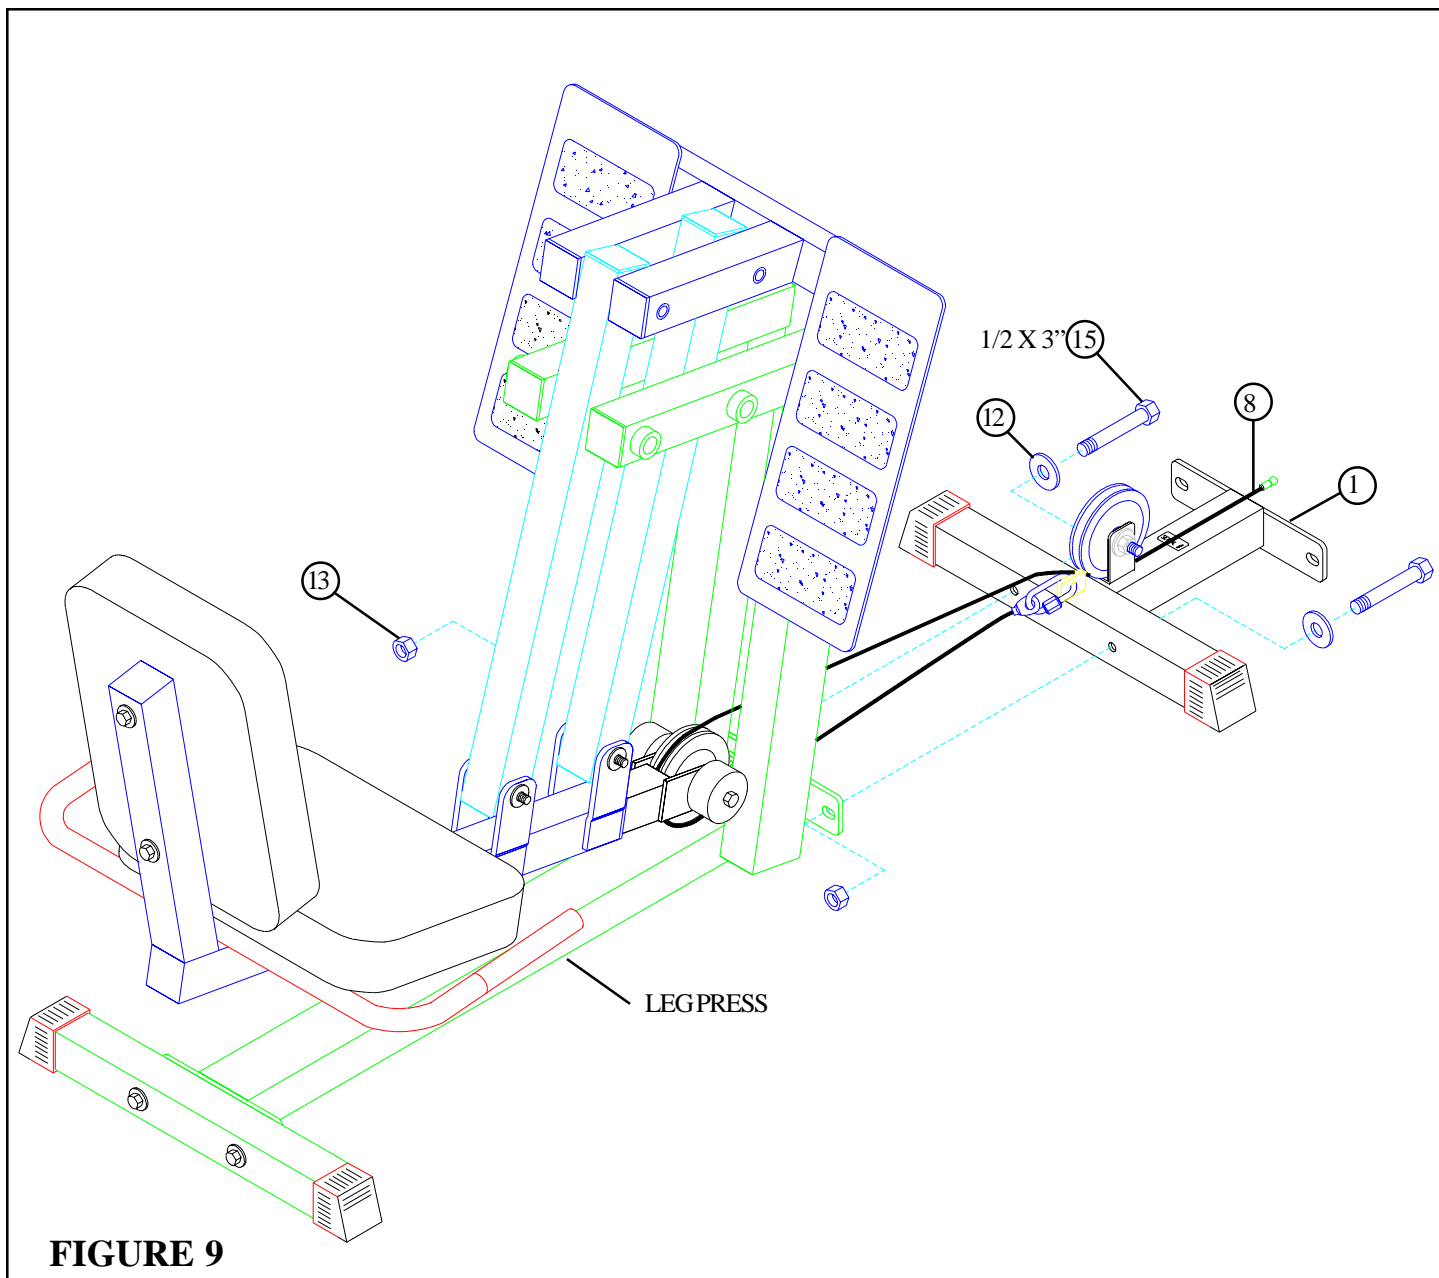

FIGURE 9
- **SECURELY** attach the LEG PRESS to the FRONT LEG (1) using two 1/2" X 3" BOLTS (15), two 1/2" WASHERS (12), and two 1/2" LOCK NUTS (13). See FIGURE 9.
- Route LEG PRESS CABLE (8) around the 3-1/2" PULLEY on the LEG PRESS and **UNDER** the 3-1/2" PULLEY on the FRONT LEG (1) as shown in FIGURE 9.